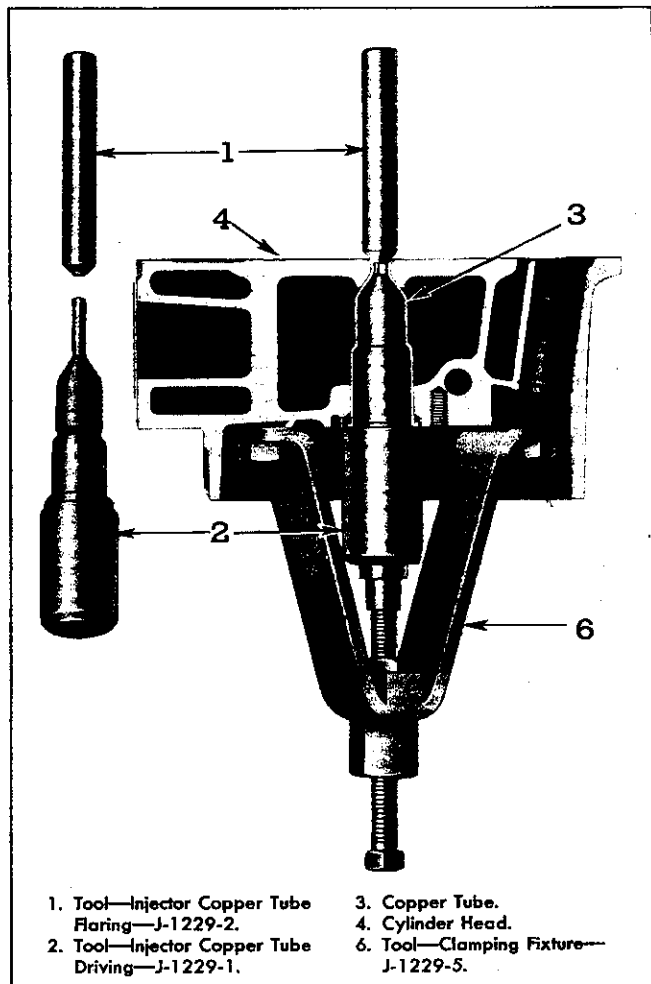

Fig. 29—Installing Injector Copper Tube in Cylinder Head with Tools J-1229-1, J-1229-2 and J-1229-5 (Operation 2).
3. After driving tube in position, swage lower end at spray tip with Tools J-1229-2, J-1229-1 and J-1229-5, shown in Fig. 29, as follows: